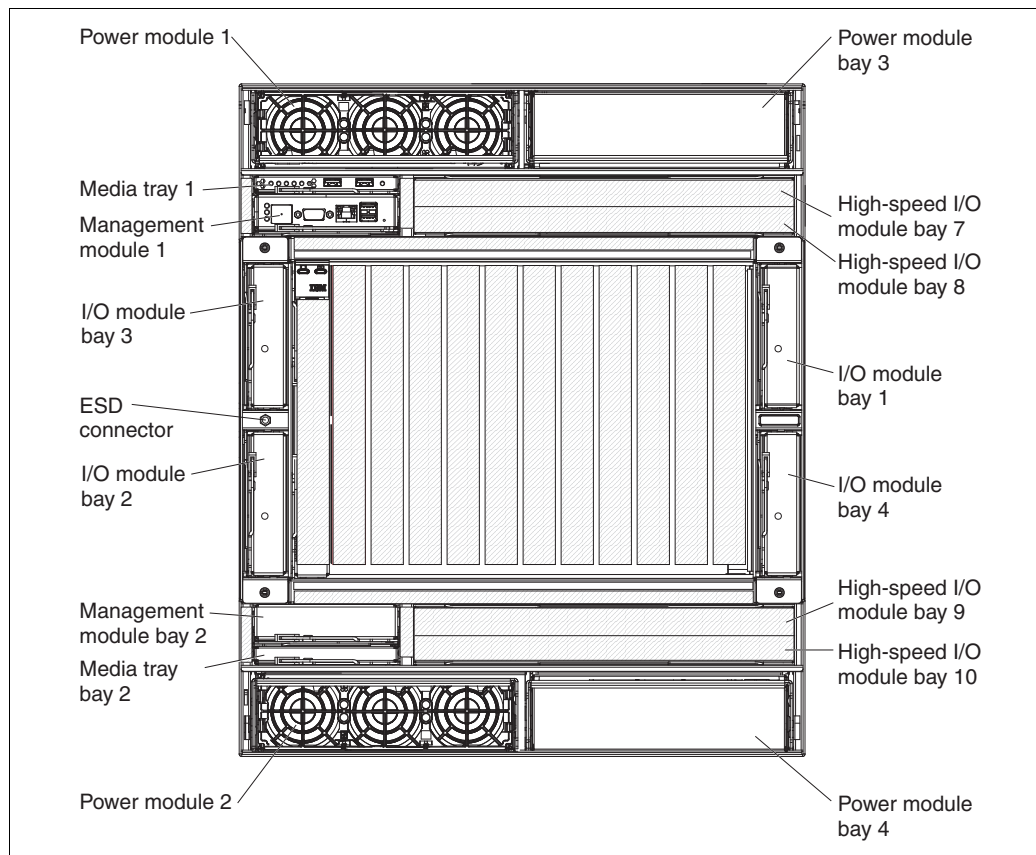
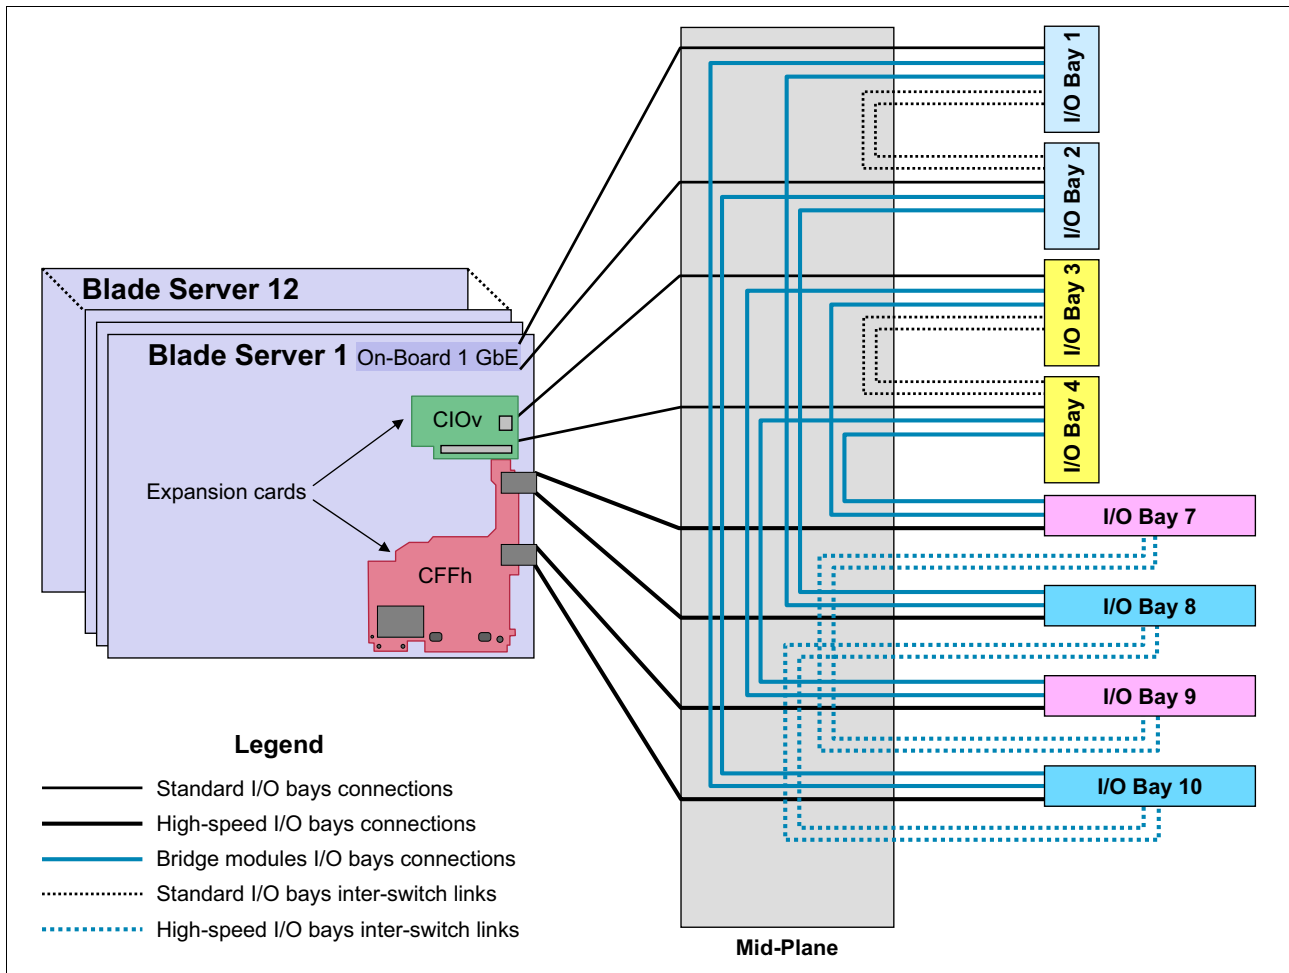

Figure 2-12 The BladeCenter HT chassis
Figure 2-14 IBM BladeCenter HT I/O topology
Figure 2-12 show the front view of the BladeCenter HT with the key chassis features.
The BladeCenter HT chassis has a total of eight I/O bays (Figure 2-12 on page 59). Each blade bay has a total of eight dedicated connection paths to the I/O modules (Figure 2-14).
- ▶ I/O bays 1 and 2 are connected to high-speed I/O bays 8 and 10 in a redundant manner, and bays 3 and 4 are connected to bays 7 and 9 in a redundant manner (Figure 2-14).